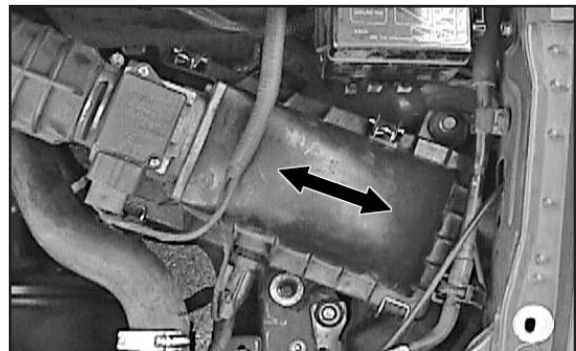

Fig. 2
- 8) Place the airbox lid onto the K&N Air Filter. Before you re-fasten the four clips, you must gently slide the lid of the airbox side to side while applying light downward pressure. (Fig. 2) You should feel the air filter pop into the groove on the lid. When the filter is seated correctly to the airbox, the lid will no longer move from side to side.